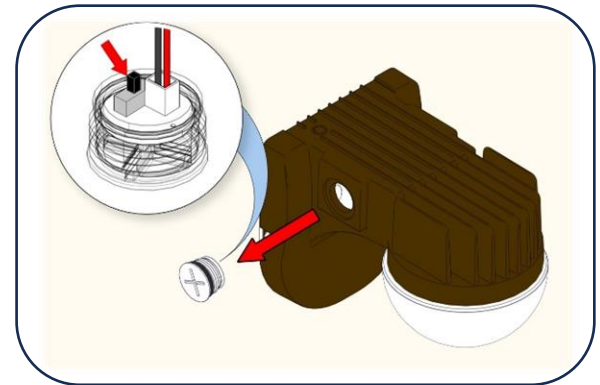

Figure 5
1. Remove the photocontrol. [Figure 5]